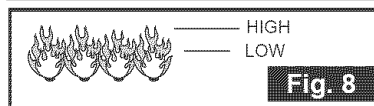

Fig. 8
- Visually check the flames every time you light your grill (Figure 8). If the flame is abnormally small or smokey yellow -- shut off the grill and check the venturi tubes for blockage (see Figure 11 on pg. 30) or refer to the Troubleshooting Guide.